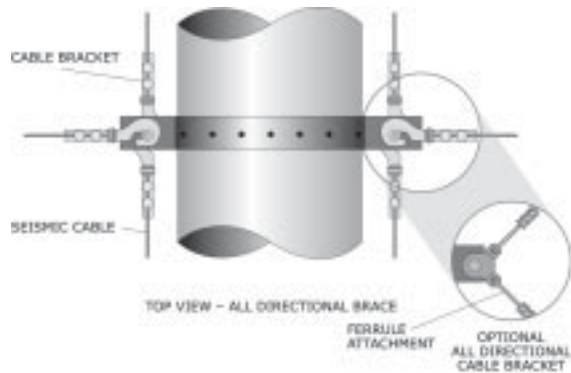
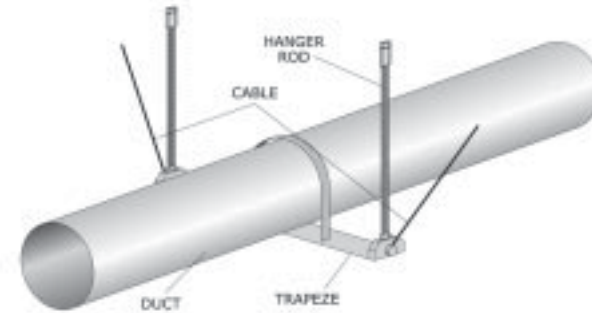

Figure 39: Round duct with vertical rods and braced with cables (all directional).
Figure 40: Optional round duct with vertical rods and braced with cables (transverse).
**Cable bracing requires bracing on both sides as shown in Figure 39 (above) and Figure 40 (page 31).**
Assemble the support and connect it to the vertical rods as shown in Figure 39 (page 30) and Figure 40 (above).